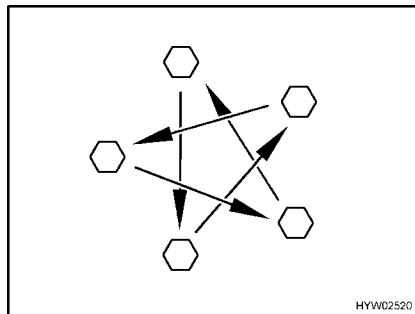

Fig. 297 Tighten the wheel nuts or wheel bolts cross-wise
- Check regularly that the wheel nuts or wheel bolts are firmly seated. Re-tighten the wheel nuts or wheel bolts of a changed wheel after 50 km (30 miles) (Fig. 297).
- When using new or newly painted rims, re-tighten the wheel nuts or wheel bolts once again after approx. 1,000 to 5,000 km (600 miles to 3,000 miles) (Fig. 297).
- ▷ Tighten the wheel nuts or wheel bolts cross-wise (Fig. 297).